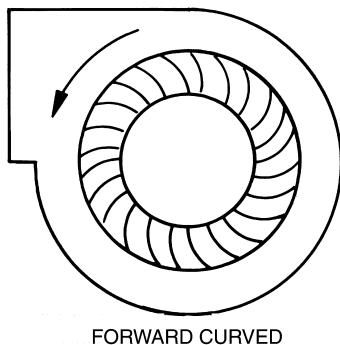

Fig. 75 — Fan Wheel Rotation
7. Check direction of rotation (see Fig. 75). Arrow on drive side of fan housing indicates correct direction of rotation.